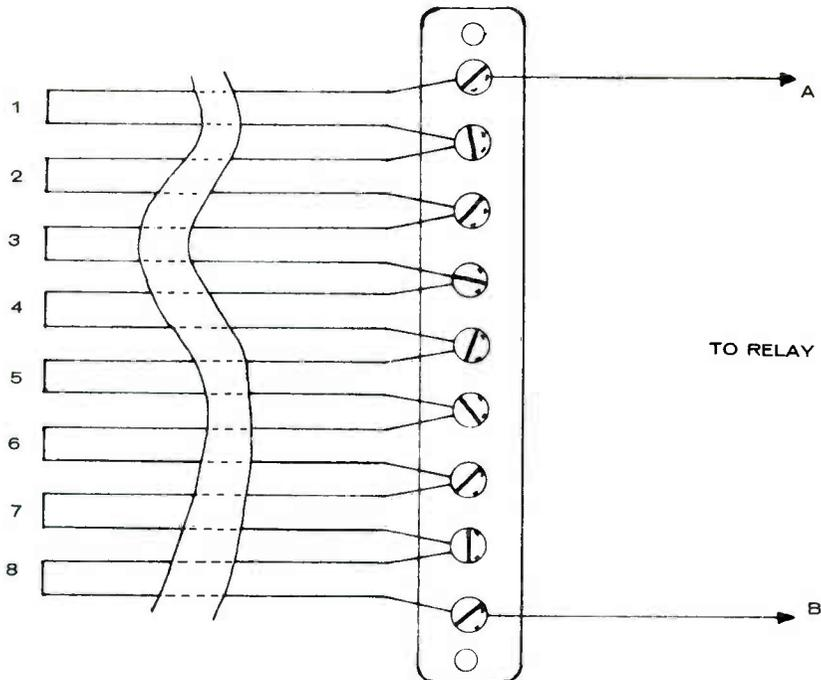
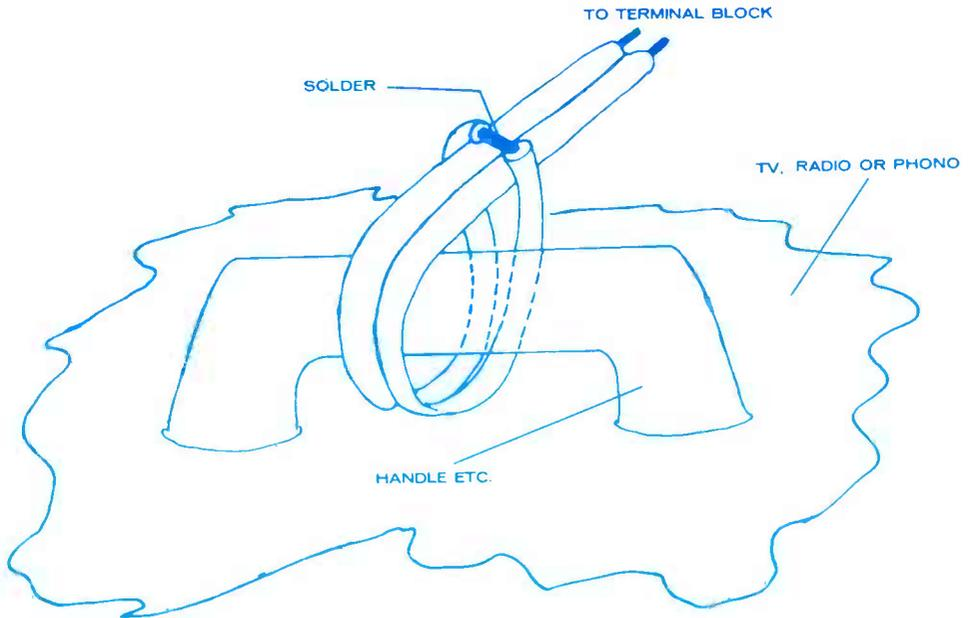

Fig. 2. Connections for merchandise protector.
Fig. 3. Merchandise protector connection.
Fig. 2 shows a suggested connection for the alarm wires. The two leads A and B from the
relay connect to the end terminals of a terminal block. For the terminal block you can use anything from screws in a wooden block to a multi-contact barrier strip. You will need to have one more terminal than the number of protected circuits desired. For the block shown in Fig. 2, there are eight protected circuits which require a nine lug terminal block. If you have display shelves, mount the terminal block under the lowest shelf, out of sight. Each protected circuit shown in Fig. 2 is merely a length of two conductor wire (lamp cord, twisted wire or juke box cable) looped through some fixed part of the TV, radio or phonograph, split apart and soldered as shown in Fig. 3. If you have more than one display area to protect, simply set up a ter-
Circuit leads are soldered, as in Fig. 3, to keep the voltage drop around the circuit as low as possible. This means that to remove a protected device from the circuit you will have to (1) turn off the alarm by unplugging it and (2) unsolder or cut the circuit lead, then (3) remove the protected unit and (4) resolder the circuit leads, then (5) turn the alarm "on" by plugging it in and pushing the reset switch.